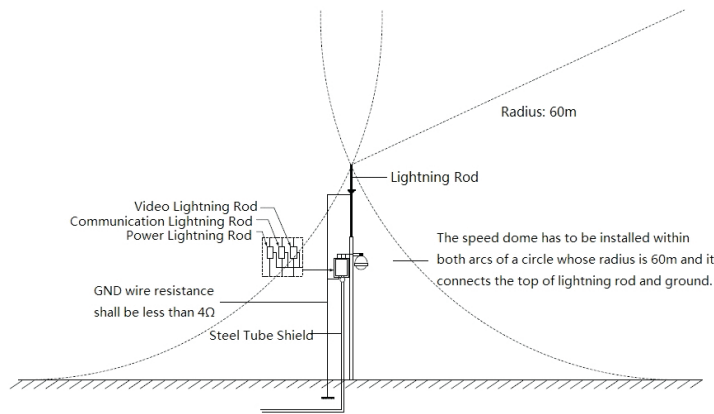

Figure 7-1
- System shall adopt equal-potential wiring. The earth device shall meet anti-jamming and at the same time conforms to your local electrical safety code. The earth device shall not short circuit to N (neutral) line of high voltage power grid or mixed with other wires. When connect the system to the earth alone, the earth resistance shall not be more than $4\ \Omega$ and earth cable cross-sectional area shall be below $25^2\ \text{mm}$. See Figure 7-1.